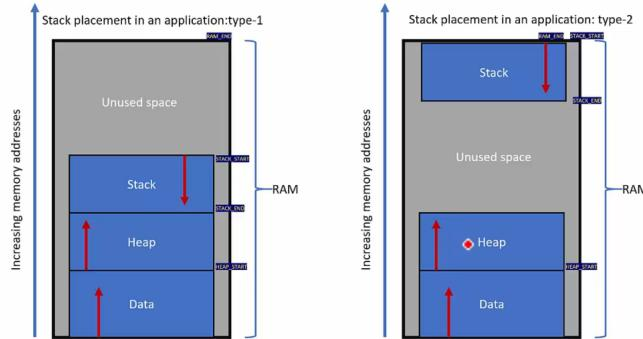

Figure 4.20: Stack Operation Mode
- Stack placement: we can place the stack in many ways as shown in Figure 4.20. Usually we use the 2nd one.